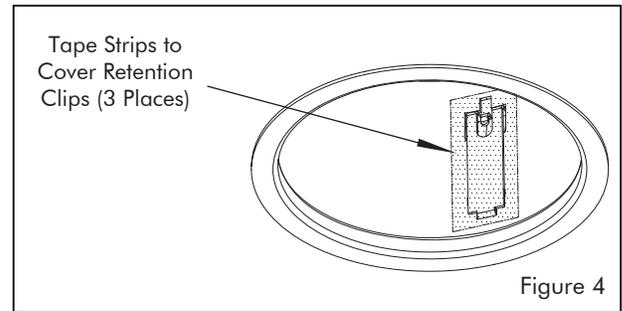

Figure 4
12. To seal housing after confirming correct operation, apply supplied tape strips to completely cover each of the three retention clips and slots. Do not substitute with other materials (see figure 4).